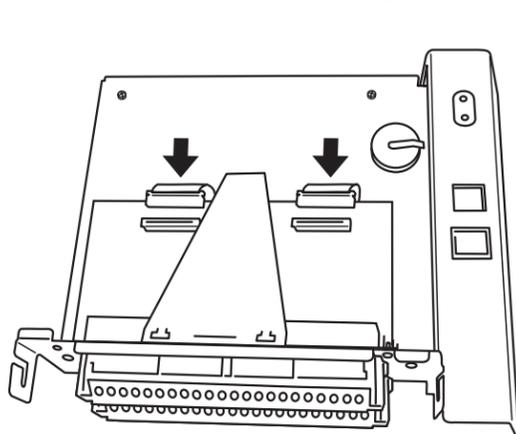

Figure 4.9 Make the flexi cable connections
8. Insert the flexi cable(s) into the option board horizontal connector(s) (figure 4.9).